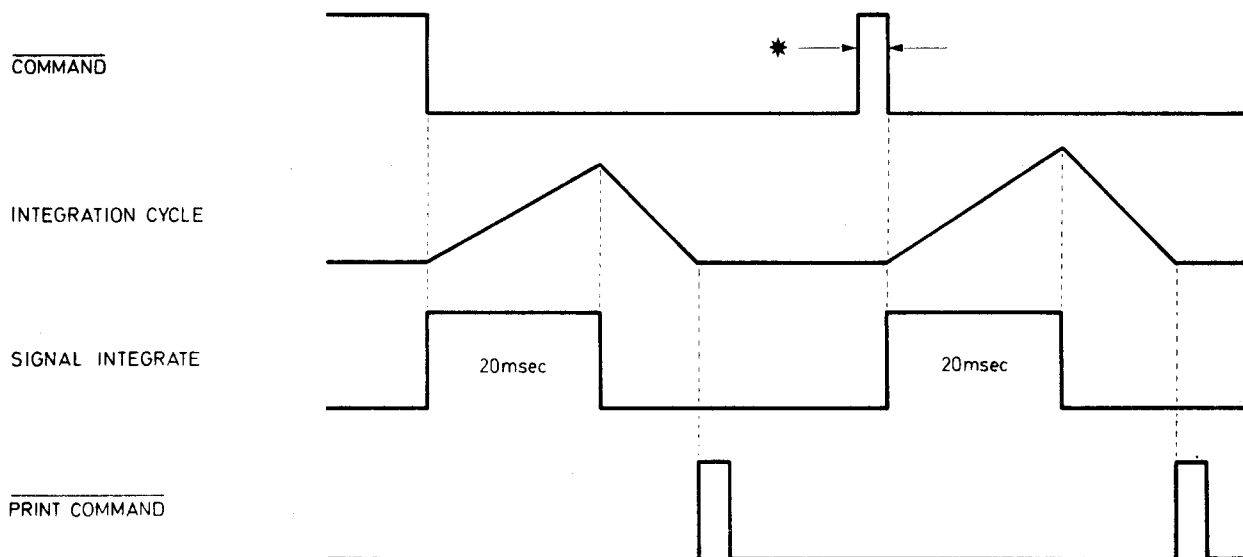

Fig 10
3.1.4.4 **Read Command:** A falling edge on pin 41, COMMAND, instructs the instrument to take one reading immediately if, and only if, pin 40 HOLD is already held low. The instrument inhibits commands that are applied before conversion in progress is complete. Fig. 10 shows the relationship of COMMAND and PRINT COMMAND to the integration cycle.